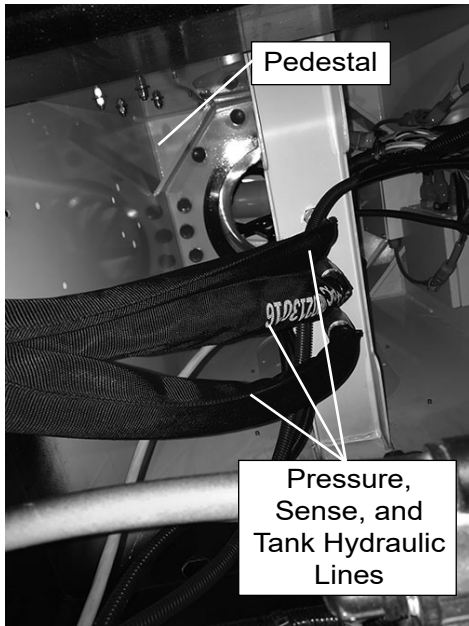

Figure 3 – Hydraulic Lines
3. Check whether the pressure, sense, and/or tank hydraulic lines coming down from the pedestal are in contact with any of the air lines coming from the brake valve (refer to Figures 3 and 4).